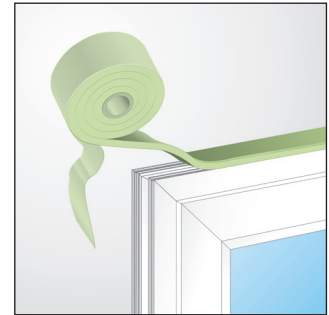
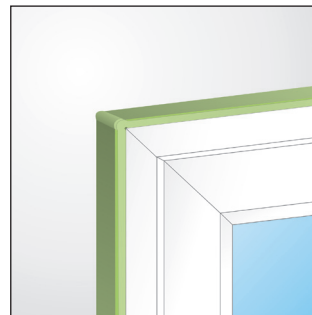

Fig. 2
Fig. 3
- Prior to installing the window, cut off the wedge shaped start of the roll and apply the tape to the outer edge of the window frame, recessed back from the external frame face by 1 – 2 mm, applying a separate length for each side to be sealed, bonding with the aid of the self-adhesive strip, ensuring that the light grey tape face is to the inside of the opening (See Fig. 2). Normally, the TP651 is applied to the head and two sides to allow for insertion of packers under the cill. Allow an extra 10 mm/m when cutting the tape length to allow for potential shrinkage- the dimension should be based on the opening size, not frame dimension. Make tight butt joints at the corners and between the end of one roll and start of another. Pay particular attention to the corner joints (See Fig. 3).